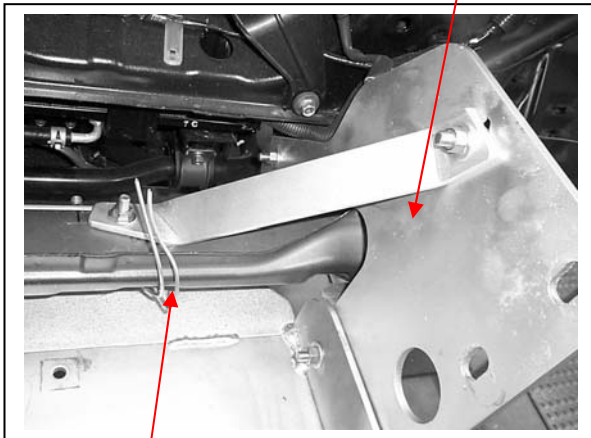

Figure 7
18. Attach steel brace plates (supplied) to inside of steel mounting brackets. Use 3/8 x 1 ¼ bolts, nut and washers (supplied). **FINGER TIGHTEN ONLY.** Align other end with rear of vehicle cross member, **see figure 7.** Drill a 10mm hole through vehicle cross member. Use 3/8 x 1 ¼ bolt/washers and wire (supplied). Feed in through hole in cross member. **See figure 7.** Use 3/8 nuts/washers (supplied) **TIGHTEN winch mounting bracket nuts/washers and brace plate nuts and bolts.** Trim wire off with approximately 100mm wire left out of holes and tape together.